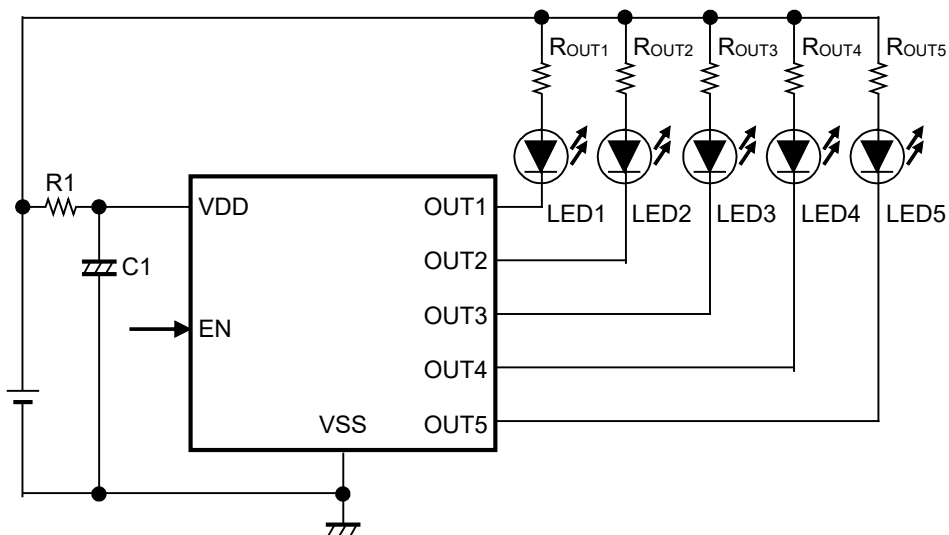

Figure 11
Refer to the circuit diagram in **Figure 11** for the circuit connection example.
- In applications where a resistor is connected to the input (refer to **Figure 11** in "■ Application Circuit"), the feed-through current which is generated when the output switches causes a voltage drop equal to feed-through current × input resistance. After the output switches, the feed-through current stops and its resultant voltage drop disappears, and the output switches. The feed-through current is then generated again, a voltage drop appears. Note that an oscillation may be generated for this reason.